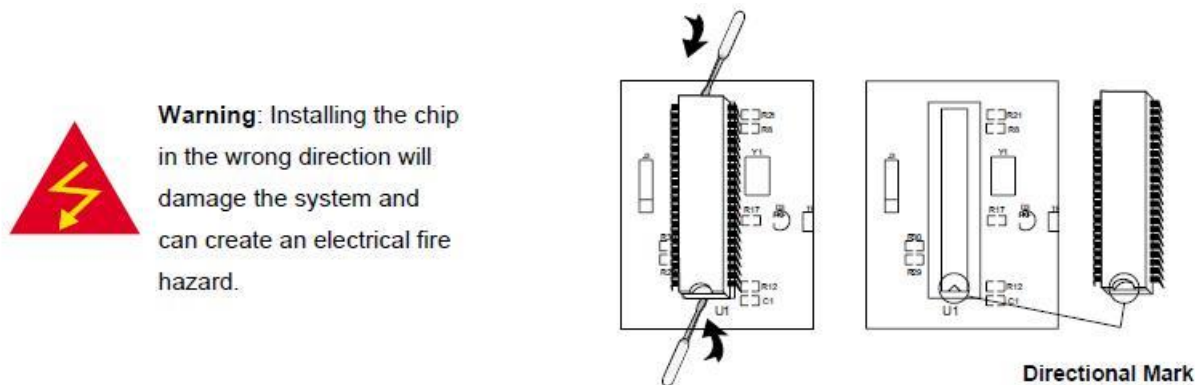

Figure 33: Installing the new chip
3. Carefully remove the existing chip, as shown in Figure 33.
4. Reinstall the chip labeled "CP E TCL..." making sure to line up the direction marks as shown in Figure 33.